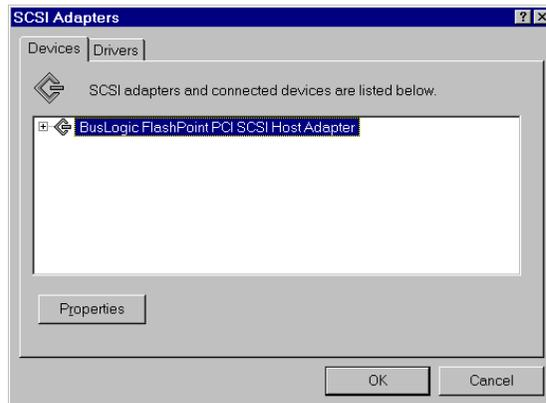

Figure 3-3. SCSI Adapters
- In the SCSI Adapters box, click the Drivers tab to bring the Drivers page to the foreground (Figure 3-3).